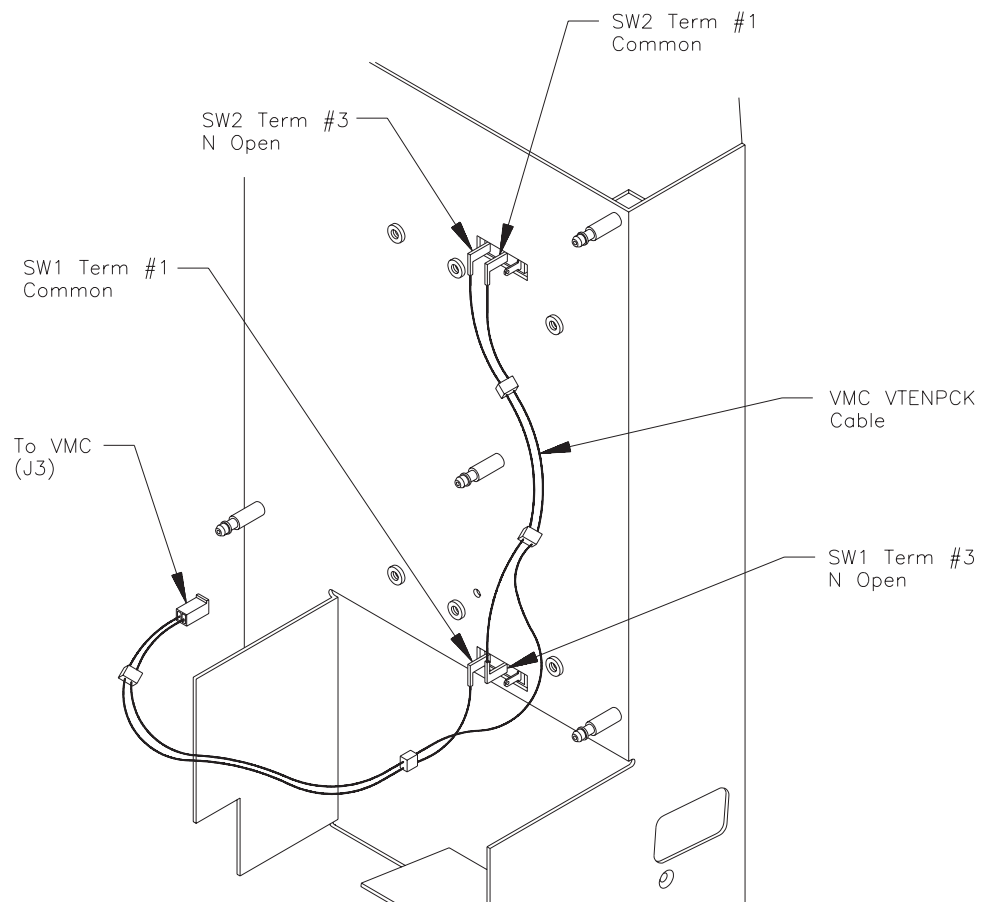

Figure 23-1 VMC VTENPCK cable and connector labels (rear view of the chassis wall)
4. Locate the VMC VTENPCK cable on the back of the chassis wall, as shown in Figure 23-1. This cable has connections to the VMC card and to the mounting plate's switch sensors.